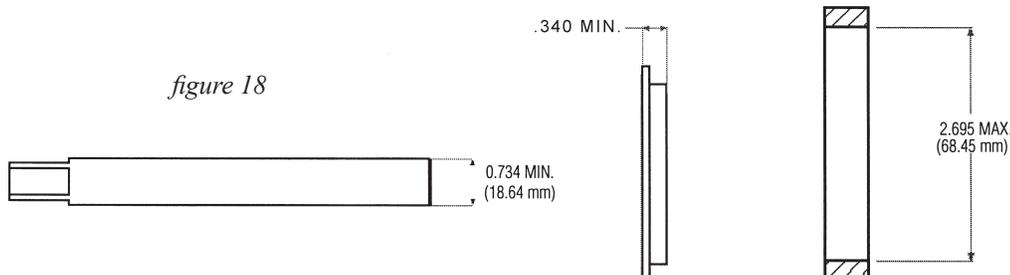

figure 18
2. Check for cracks or excessive wear on the shaft (item 5), impeller thrust ring (item 3A) and rear sealing ring (item 4C). Replace if cracked or excessively worn. *See figure 18.*